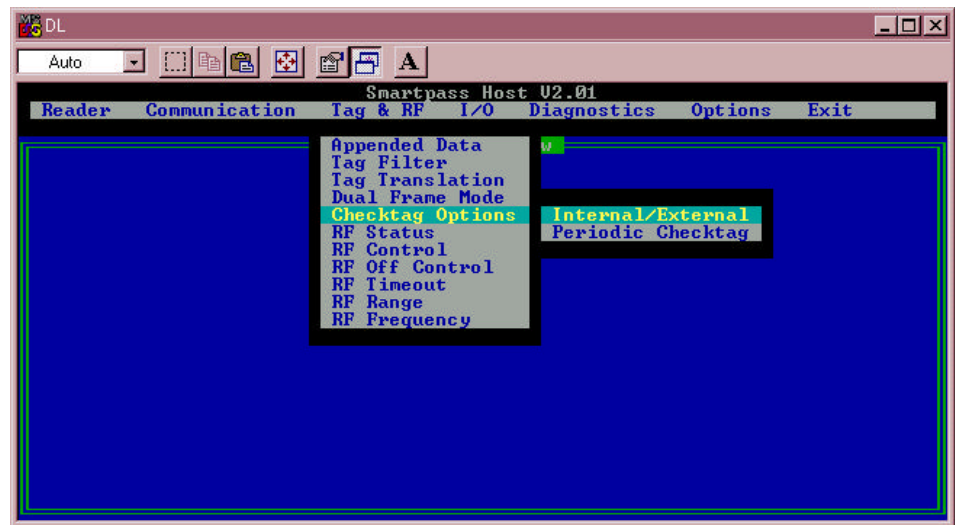

Figure 4-10 Check Tag Options Submenu
1. Select the **Tag & RF** drop-down menu and click **Checktag Options**. Figure 4-10 illustrates the submenu for check tag operations.